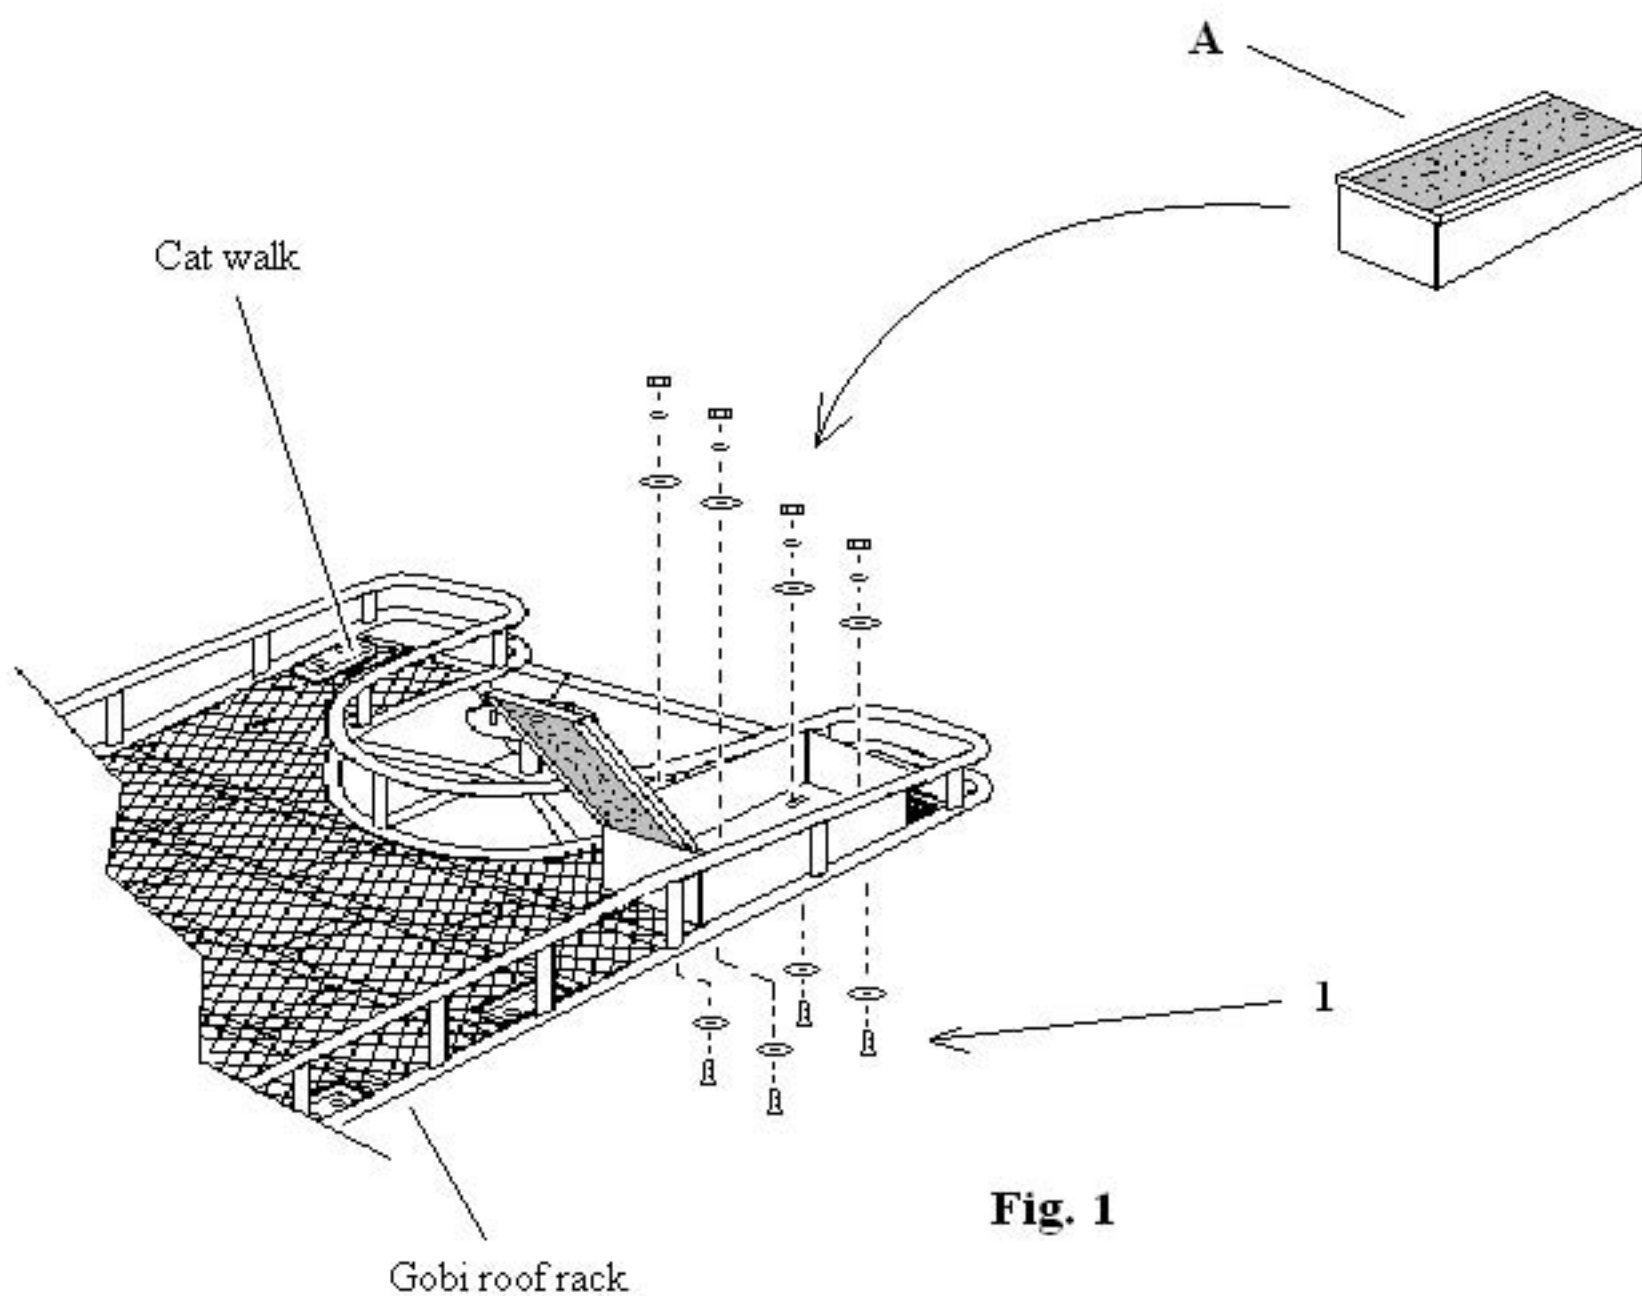
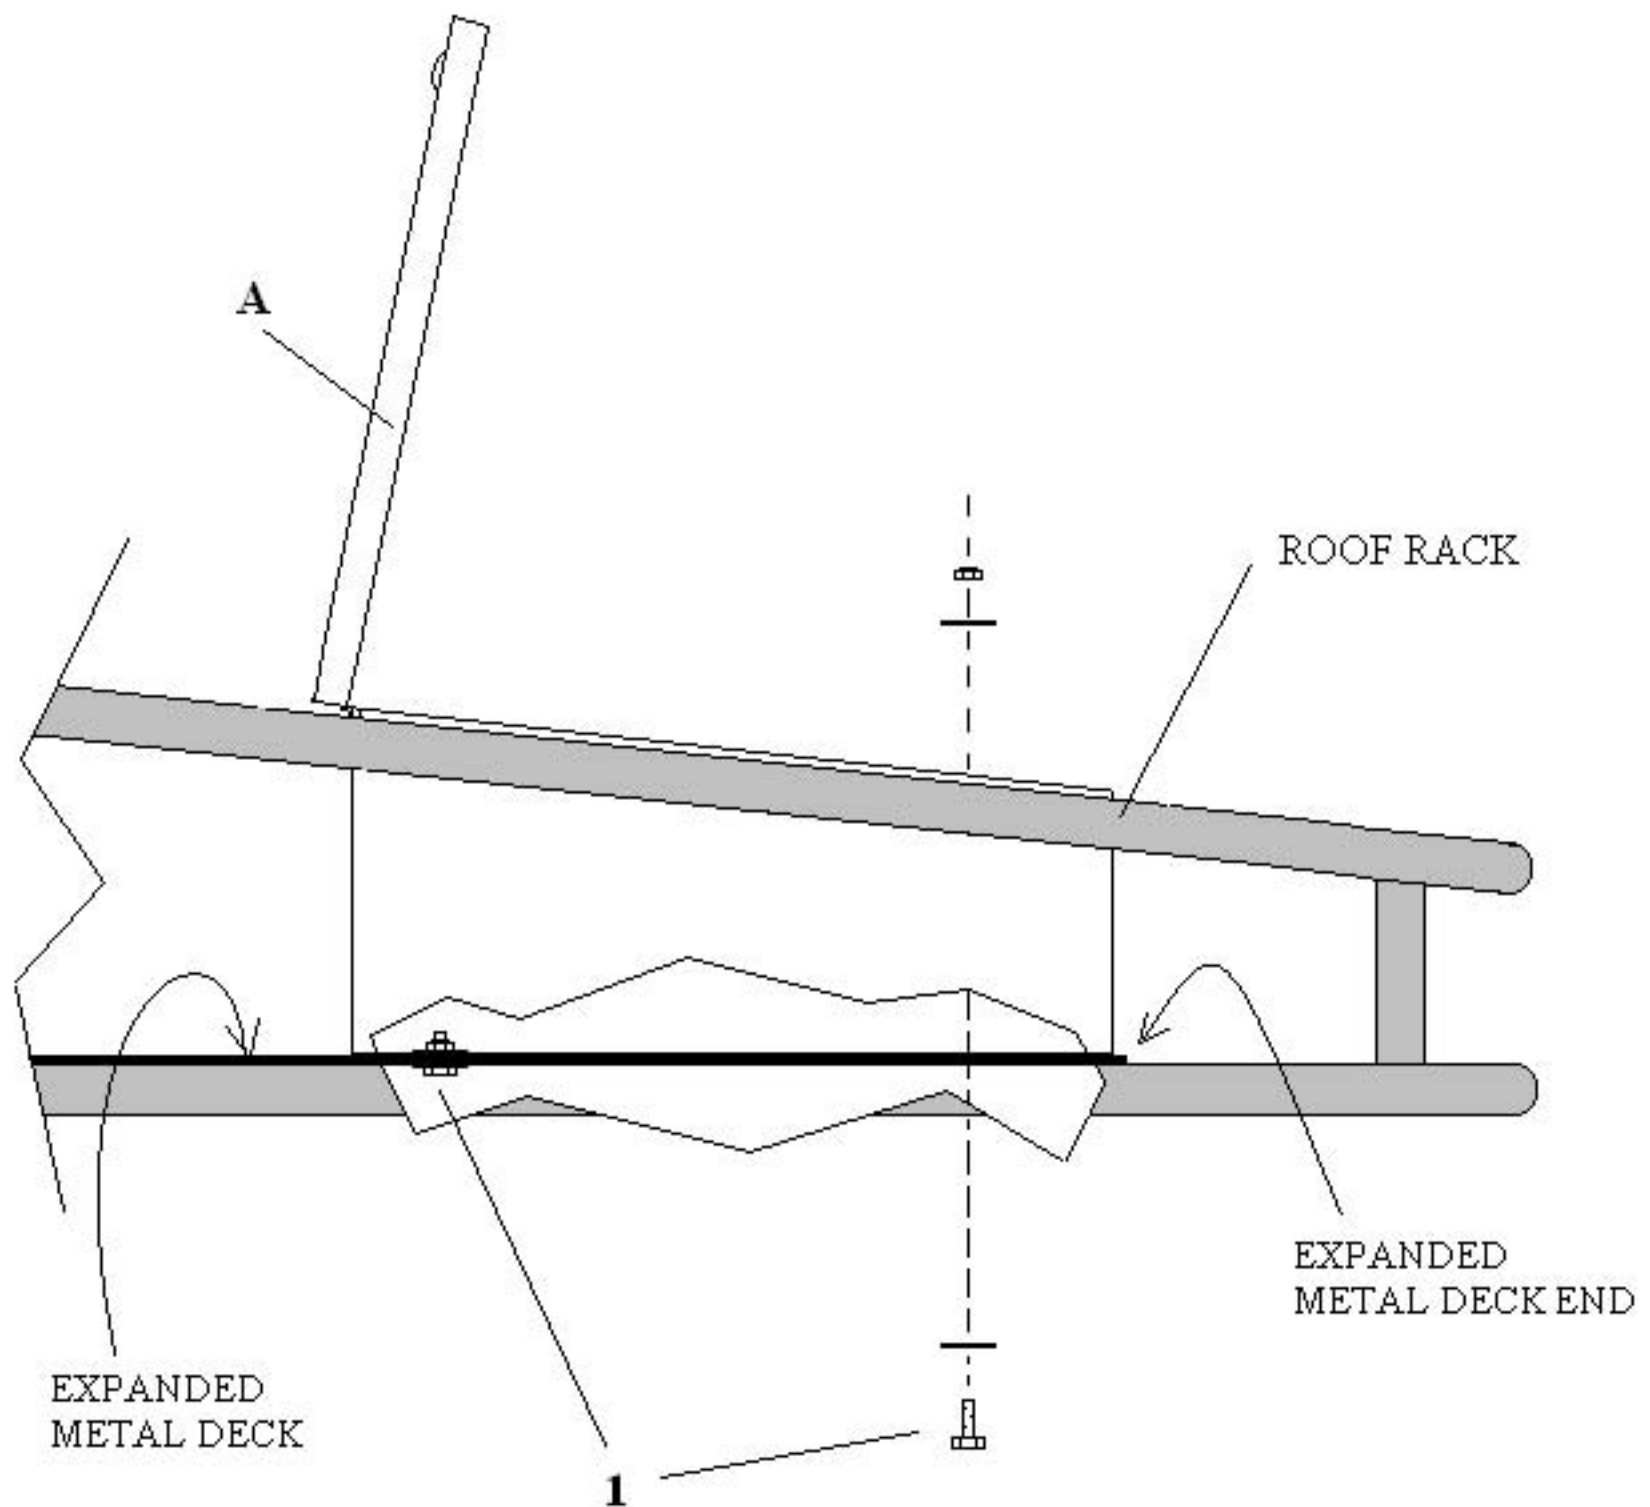

Fig. 1
Fig. 2
- 2- If you have a Gobi roof rack with a built in tire carrier locate the cat walks immediately to the sides of the tire carrier as shown in Fig.1 page 3. If your Gobi rack does not have a built in tire carrier locate an area to the rear of your rack preferably rear outer edges. This will facilitate access to the tool box from your Gobi ladder so that climbing on top of the roof rack is not necessary when removing articles from the tool box.
- 3- Open the lid of the Gobi tool box and place the tool box in the cat walk area of the Gobi roof rack as shown in Fig. 1 page 3. Align tool box to the edge of the expanded metal deck as shown in Fig.2 page 4. Locate the 4 elongated holes at the bottom of the tool box and align with expanded metal deck below.
- 4- Take bolts and fender washers #1 found in Plastic Bag "B" and push them up into the tool box from the underside of the expanded metal deck as shown in Fig. 2 page 4. While holding each bolt and fender washer from the underside of the Gobi roof rack place another fender washer onto the exposed bolt within the tool box followed by a lock nut repeat to all four bolts finger tighten at this time.